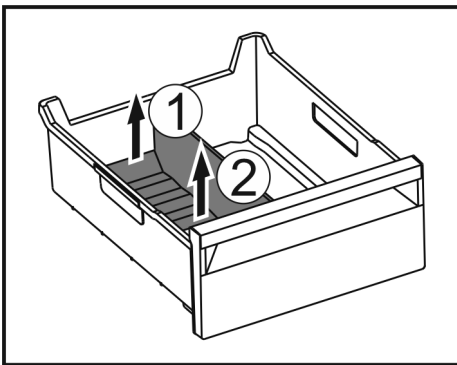

Fig. 145
- ▶ Lift the rear part of the ice compartment divider. Fig. 145 (1)
- ▶ Remove the ice compartment divider upwards. Fig. 145 (2)